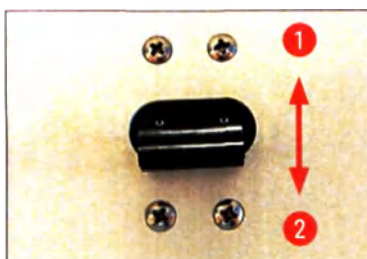

Fig. 12
- The switch must be in the top position (switch position 1) (→ "Fig. 12") for switching on the circuit breaker (→ Fig. 12-1).
- Switch the instrument on at the circuit breaker (→ "Fig. 12"). The instrument is now initialized.